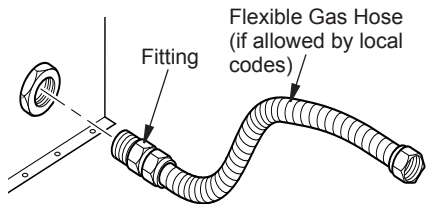

Figure 11 - Attaching Flexible Gas Hose to Heater
1. Apply pipe joint sealant lightly to male threads of the fitting to be threaded into gas regulator. Connect approved flexible gas hose to gas regulator of heater (see Figure 11).
4. Disconnect gas line from heater base as shown in Figure 11, page 14.